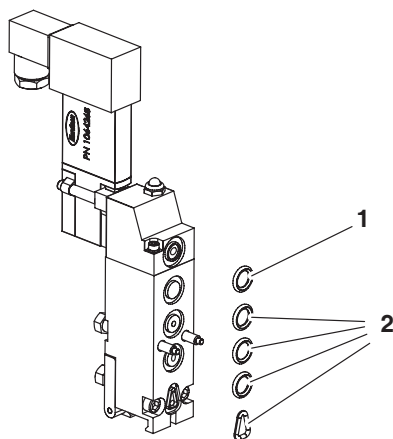

Figure 26 Installing new O-rings
20. See Figure 26. Insert new O-rings in the grooves on the module body and cap.